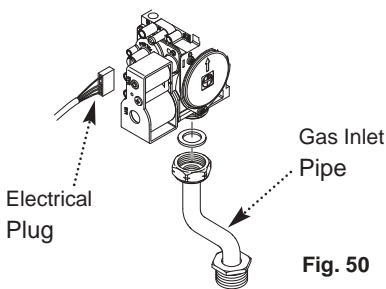

Fig. 50
4. Disconnect the plug from the gas valve and undo the nut on the gas inlet pipe at the base of the valve (Fig. 50).